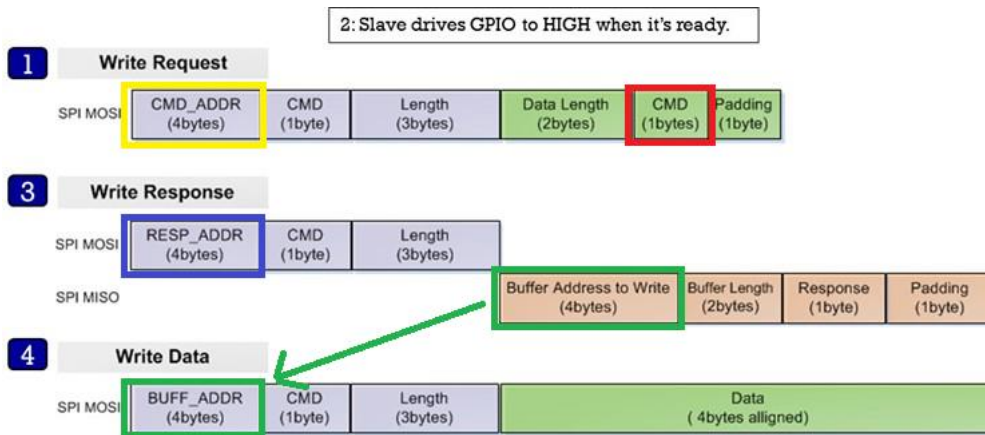

Figure 3: Write operation structure
1. The Host sends a WRITE_REQ command (0x80, red rectangle in Figure 3) to the General Command address (0x50080254) (yellow rectangle in Figure 3).
3. The Host reads the Write Response message by Response Command address (0x50080258, blue rectangle in Figure 3) and parse it using struct `_st_host_response` (see Section 3.2.2).
4. The Host sends data to address (BUFF_ADDR) which is received from the Slave in the Write Response message (green rectangle in Figure 3).